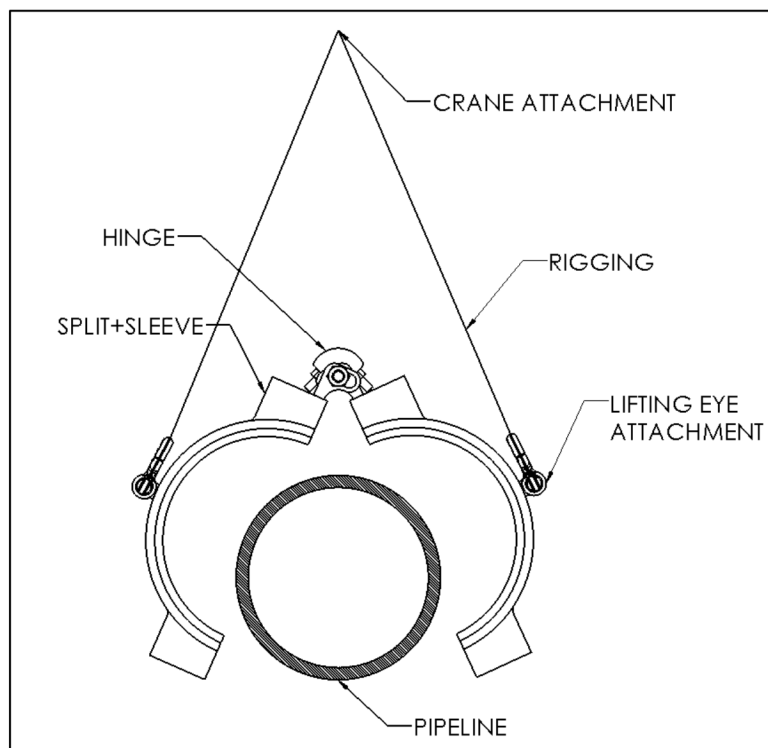

Figure 12
3. Attach properly sized rigging such as chains, cables, or straps to a single point crane attachment. The rigging should be sufficiently long enough that the rigging doesn't interfere with opening and closing of the fitting as shown in Figure 12.
4. Lift the fitting up from the single point crane attachment. The Split+Sleeve will open as shown in Figure 12.
5. Position the fitting over the pipeline and slowly lower the fitting onto the pipeline as shown in Figure 12. The inside of the fitting should come in contact with the pipeline, and the fitting will start to close as it is lowered. Some fittings may require some additional side force to close the fitting around the pipe. Keep all body parts clear of the inside of the fitting as the fitting is being lowered onto the pipe. This is to ensure safety in the event the fitting slams shut rapidly.